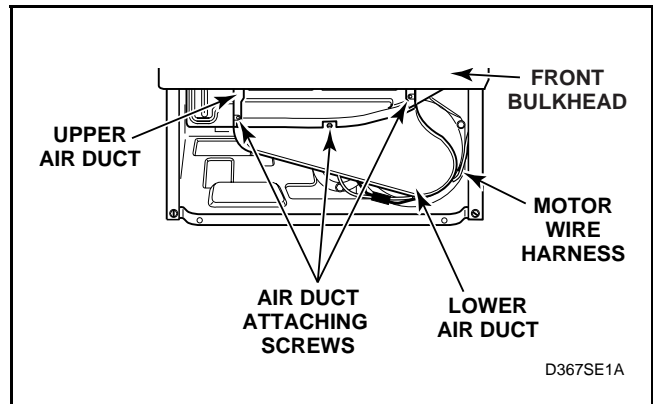

Figure 19
- (3.) Remove three screws holding lower duct to upper duct and remove lower air duct. See *Figure 19*.
- Remove screws holding lower air duct to upper air duct and remove lower air duct. See *Figure 19*.